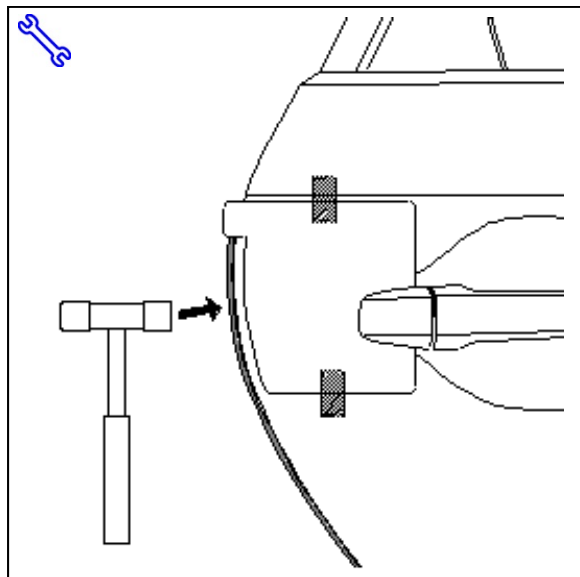

Fig. 1-5
- (e) While holding DEG in proper alignment with one hand, use **soft side of the rubber mallet** to begin tapping the channel onto the door edge, start three (3") inches below the top of the DEG. (Fig. 1-5)